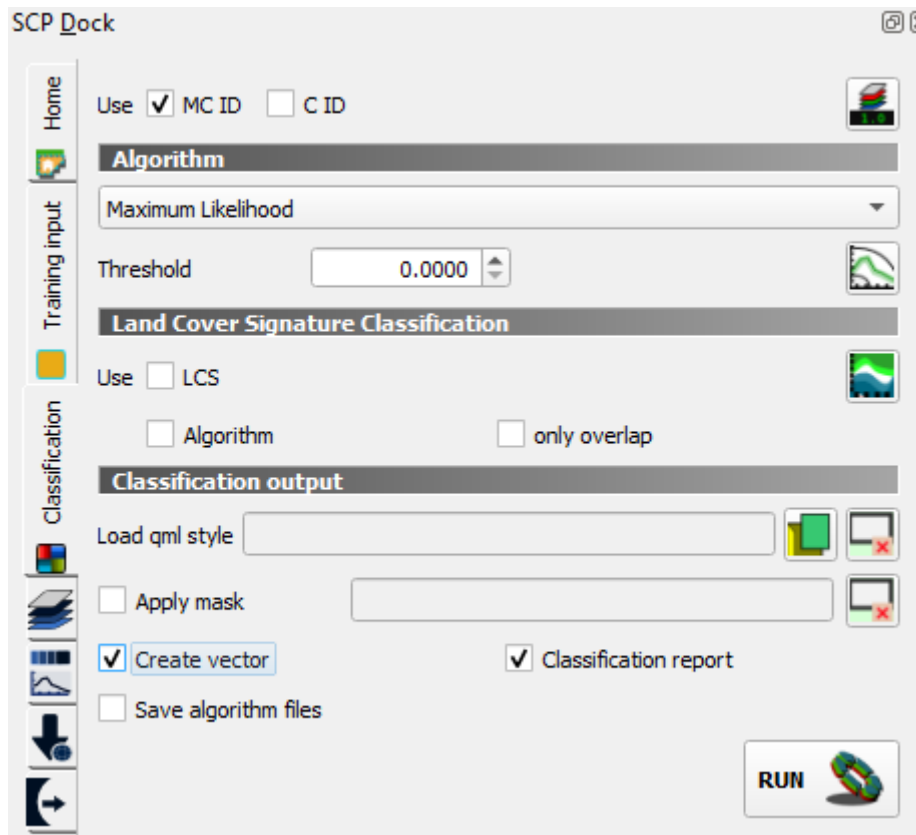

Figure 9. Options for supervised classification.
7) Once you have created as many ROIs as you want, continue to the *Classification* tab at SCP Dock. There you can select the classifier and decide if Macro- or Sub-classes will be used (checkboxes at the top). You can check the options for creating a classification report as well as classified vectors (its optional), see Figure 9. Conversion of classification result into raster may be done also later using the *Postprocessing* tab in SCP.